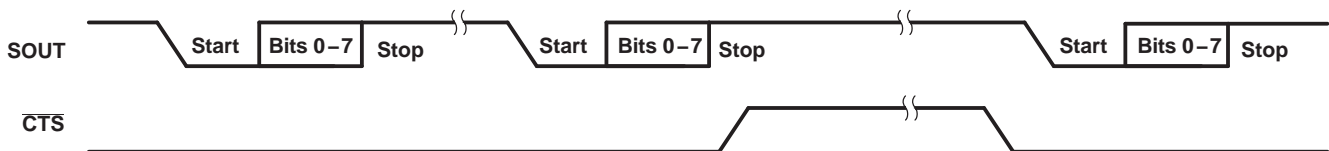

Figure 2. CTS Functional Timing Waveforms
**Auto-CTS (See Figure 2)**
Auto-RTS data flow control originates in the receiver timing and control block (see functional block diagram) and is linked to the programmed receiver FIFO trigger level. When the receiver FIFO level reaches a trigger level of 1, 4, or 8 (see Figure 2), RTS is deasserted. With trigger levels of 1, 4, and 8, the sending ACE may send an additional byte after the trigger level is reached (assuming the sending ACE has another byte to send) because it may not recognize the deassertion of RTS until after it has begun sending the additional byte. RTS is automatically reasserted once the RCV FIFO is emptied by reading the receiver buffer register.